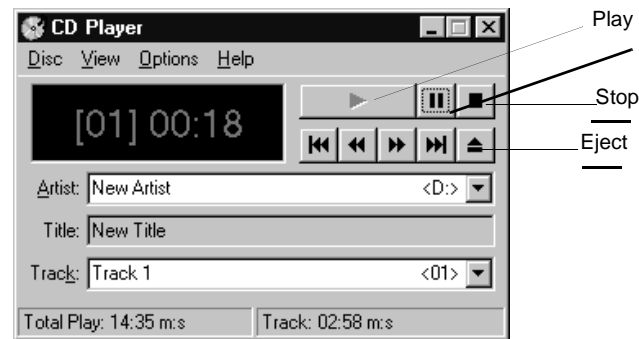

Figure 14. CD Player Window
1. Click the CD Player button on the Windows task bar to open the CD Player window (Figure 14).